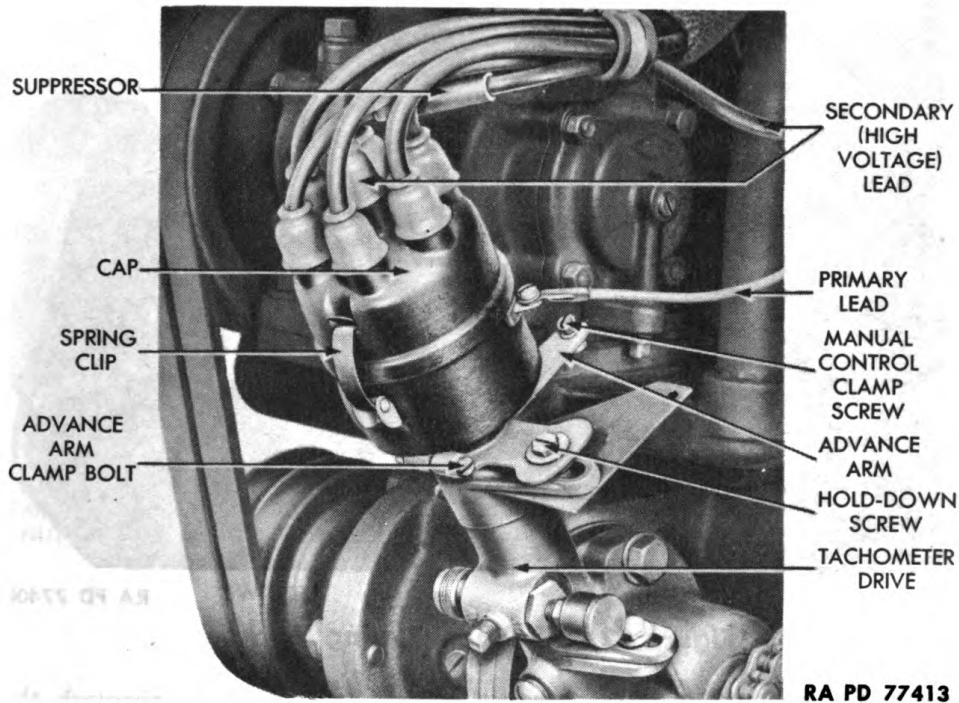

Figure 51 – Distributor Installed
(2) **REMOVE DISTRIBUTOR CAP AND ROTOR** (fig. 51). Unsnap both spring clips and lift cap from body. Lift rotor.
(1) **DESCRIPTION** (fig. 51). The distributor is located on the
(1) **SET IGNITION TIMING** (fig. 51). Remove all spark plugs (par. 83 b) to relieve compression. Rotate engine with hand crank until No. 1 piston is on compression stroke, and "DC" mark on flywheel (fig. 52) is centered in peephole on left front side of bell housing behind fuel pump. This places number one cylinder in firing position. Loosen clamp bolt on advance arm. Loosen manual control clamp screw. Unsnap both spring clips and lift distributor cap and rotor. Rotate distributor clockwise, viewed from top, to end of slot in advance arm. Continue to rotate until points just start to open. Tighten clamp bolt on advance arm. Rotate distributor counterclockwise $1\frac{1}{2}$ divisions on advance arm marker. Tighten manual control clamp screw. Place cap in position on distributor
(2) **DISCONNECT WIRES** (fig. 51). Unsnap spring clips and remove distributor cap. Leave high-tension wires attached to cap. Disconnect low-tension primary lead wire from terminal on side of distributor.
(3) **DETACH DISTRIBUTOR** (fig. 51). Loosen manual control clamp screw, advance arm clamp bolt, and hold-down screw. Lift distributor from engine.
(1) **ATTACH DISTRIBUTOR TO TACHOMETER DRIVE** (fig. 51). Insert base of distributor into its boss in tachometer drive. Install hold-down screw.
(2) **TIME IGNITION.** Step b (1) above.